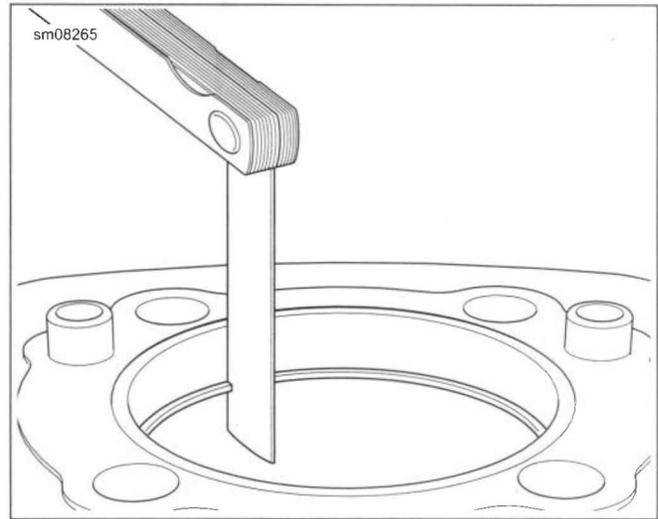

Figure 4-61. Measuring Ring Gap
1. See Figure 4-61. Check piston ring end gap of each ring before installing on piston.